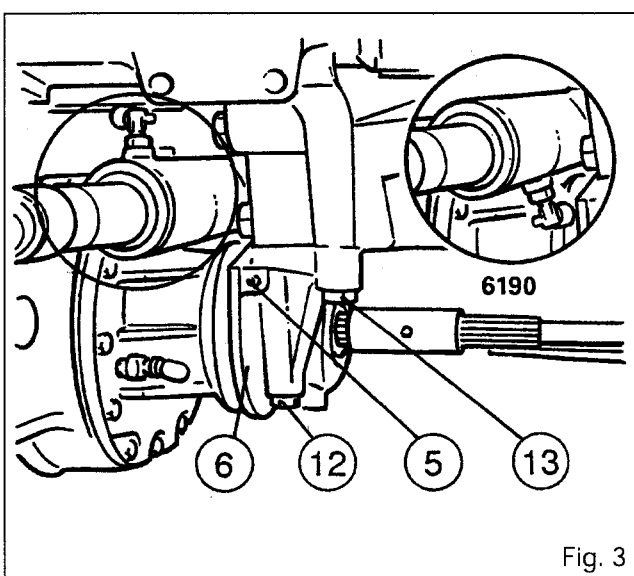

Fig. 3
Rear attachment of the AG 155 axle assembly is provided by a bearing (6) (Fig. 3) that is different from the one fitted on tractors 6160 to 6180. The lower section of the frame is specially moulded to allow the installation of the bearing, attached by bolts (12) and (13).
7. Remove the bolts (12) and (13) (Fig. 3). Remove the front axle with the bearing (6).
8. Dismount the bearing from the front axle. Remove the washer (7) and the dust guard (8).